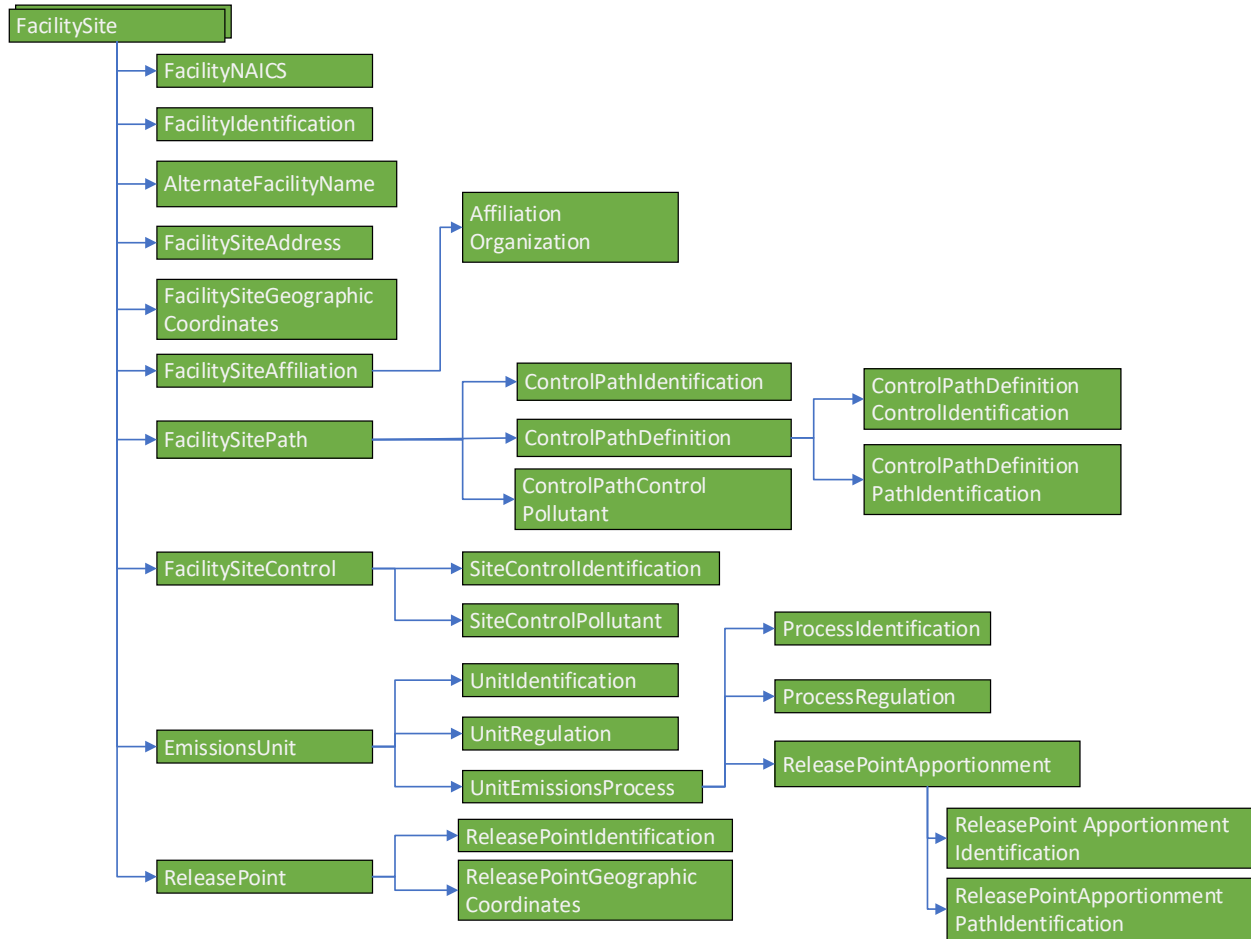

Figure 1: CERS Components for Facility Inventories
- 5) Updated “Figure 1” to show the new ControlPathControlPollutant component as well as changes to the names of SiteControlPollutant and SiteControlIdentification (see #6, #7, #8 below).
- 1) The diagram of the CERS components (Figure 1) has been corrected to show appropriate component names.
In order to meet these needs, significant changes to what is stored within EIS were required. You will notice in **Figure 1 – CERS Components** (page 4) there are several new components listed under the **FacilitySite** component: